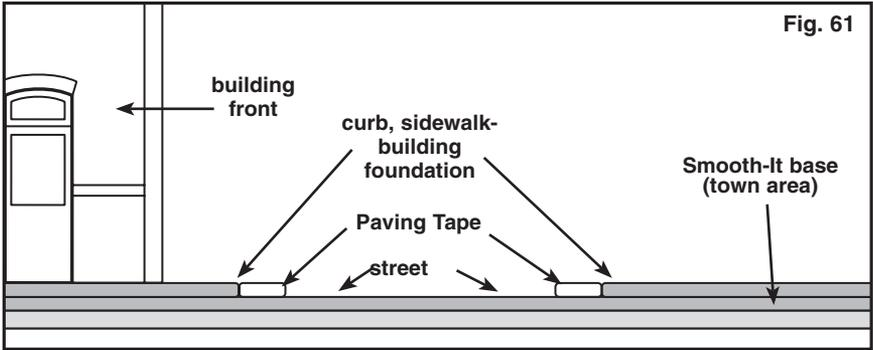

Fig. 61
1. Following the desired path of your sidewalk, curb or foundation, lay strips of Paving Tape over the existing dried Smooth-It on the inside edges of all your roads in the town area (Fig. 61 and 62). Make sure curbs line up with roads leading into the town area.
2. Following the steps under "Pave Town and Factory Areas" (page 29) apply another layer of Smooth-It over the area outside the road. This will elevate the area above the existing layer of Smooth-It creating a curb, sidewalk or foundation for your buildings (Fig. 61).